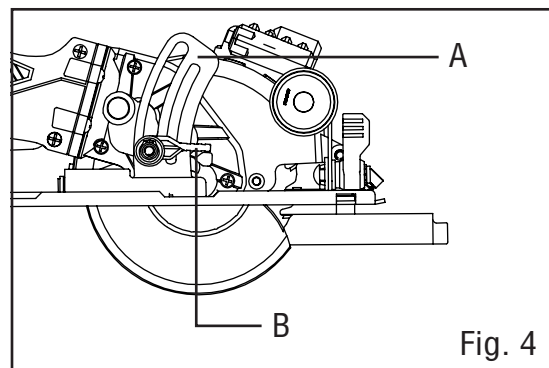

Fig. 4
### SETTING THE DEPTH OF CUT (FIG. 4)
2. Flip up the depth lock lever (Fig. 4 - B) to loosen it .
3. Slide the depth lock lever so that the arrow points to your desired cutting depth indicated on the depth scale (Fig. 4 - A).